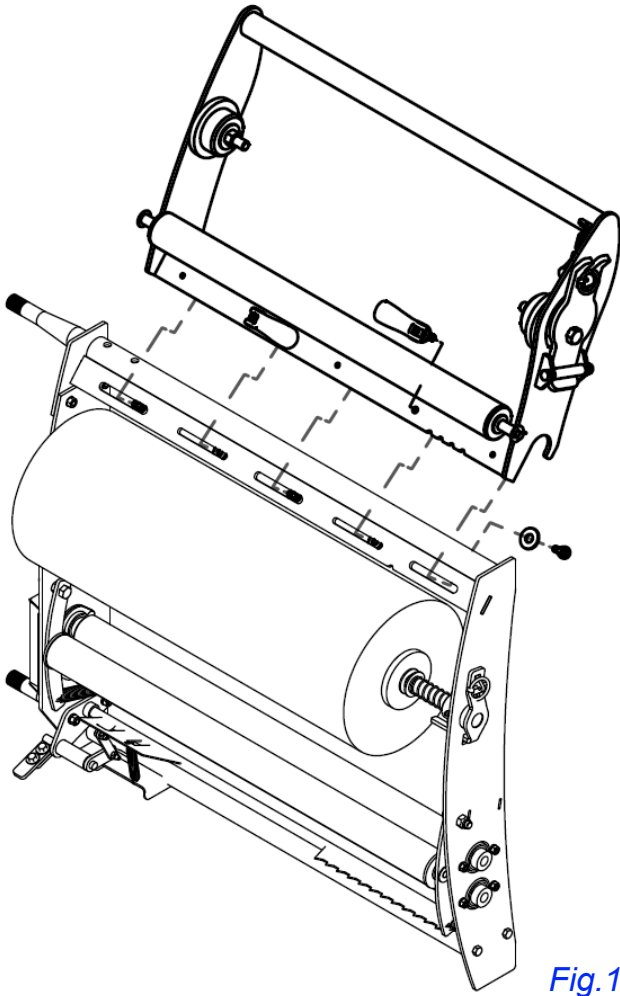

Fig.1
5. The 3 socket head bolts must be placed through bottom side. Do not fully tighten to allow tensioner to slide. See Fig.1.